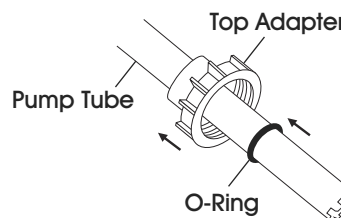

Figure 6
6. Slide the top adapter over the pump tube with the internal threads positioned toward the bottom of the tube. Slide the O-ring over the pump tube. (See Figure 6)